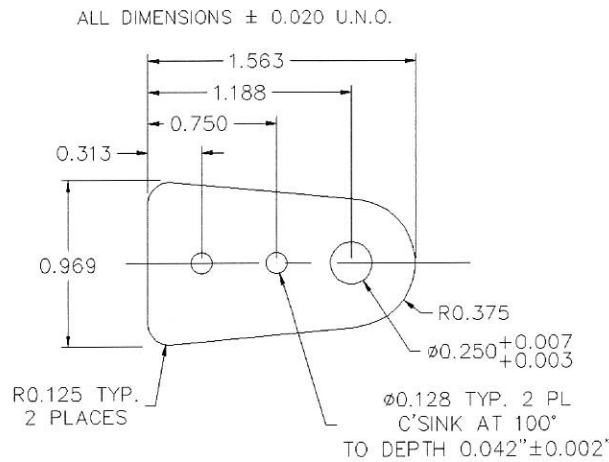

Figure 6 – Arm Packer, P/N GA8-571021-167
8. If required, locally fabricate two Arm Packers from 0.125" thick 2024-T3 clad aluminium per SAE-AMS-QQ-A-250/5 to the dimensions in Figure 6. Apply a chemical conversion coating to the reworked area(s) of the Arm in accordance with MIL-DTL-5541F (or later approved revision), Type I, Class 1A. Apply at least one coat of Item 8 or Item 9 primer to the Packers.